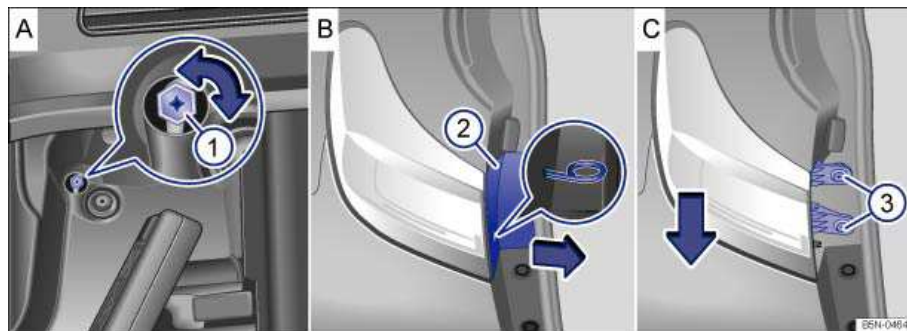
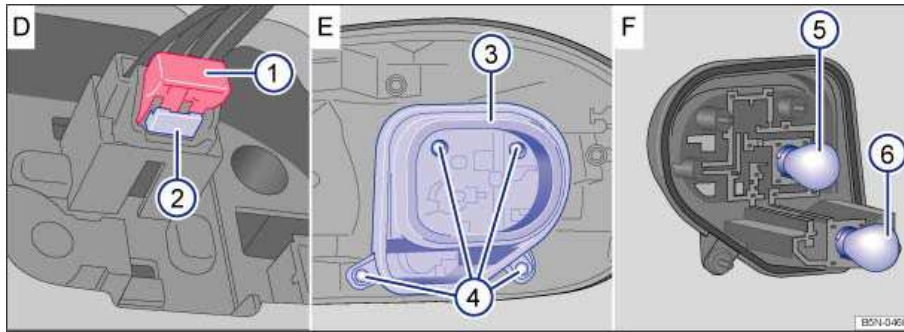

Fig. 209 In the side of the luggage compartment: Releasing the tail light, removing the trim panel and removing the screws.
Fig. 210 Removed tail light: Removing the bulb holder and replacing the tail light and brake light bulb 3 or turn signal bulb 4.
3.	Insert the wire bracket from the vehicle tool kit into the small hole in the trim panel ⇒ fig. 209 (2) B . Remove the trim panel in the direction of the arrow using the wire bracket.
5.	Using the Phillips screwdriver from the vehicle tool kit, turn the locking mechanism (1) A 90° counterclockwise until it stops.
6.	Remove the screws (3) C .
8.	Remove the red locking mechanism ⇒ fig. 210 (1) D as illustrated and disconnect the electrical connector with the lever (2) D pressed down.
| 13. | Insert the bulb holder in the tail light and screw it in ⇒ fig. 210 E . |
| 14. | Turn the locking mechanism ⇒ fig. 209 (1) A 90° clockwise until it stops. |
| 15. | Insert the electrical connector into the bulb holder until it clicks into place. Press the red locking mechanism ⇒ fig. 210 (1) D back in. |
| 18. | Insert the trim panel ⇒ fig. 209 (2) B into its original position, first at the bottom and then at the top. |